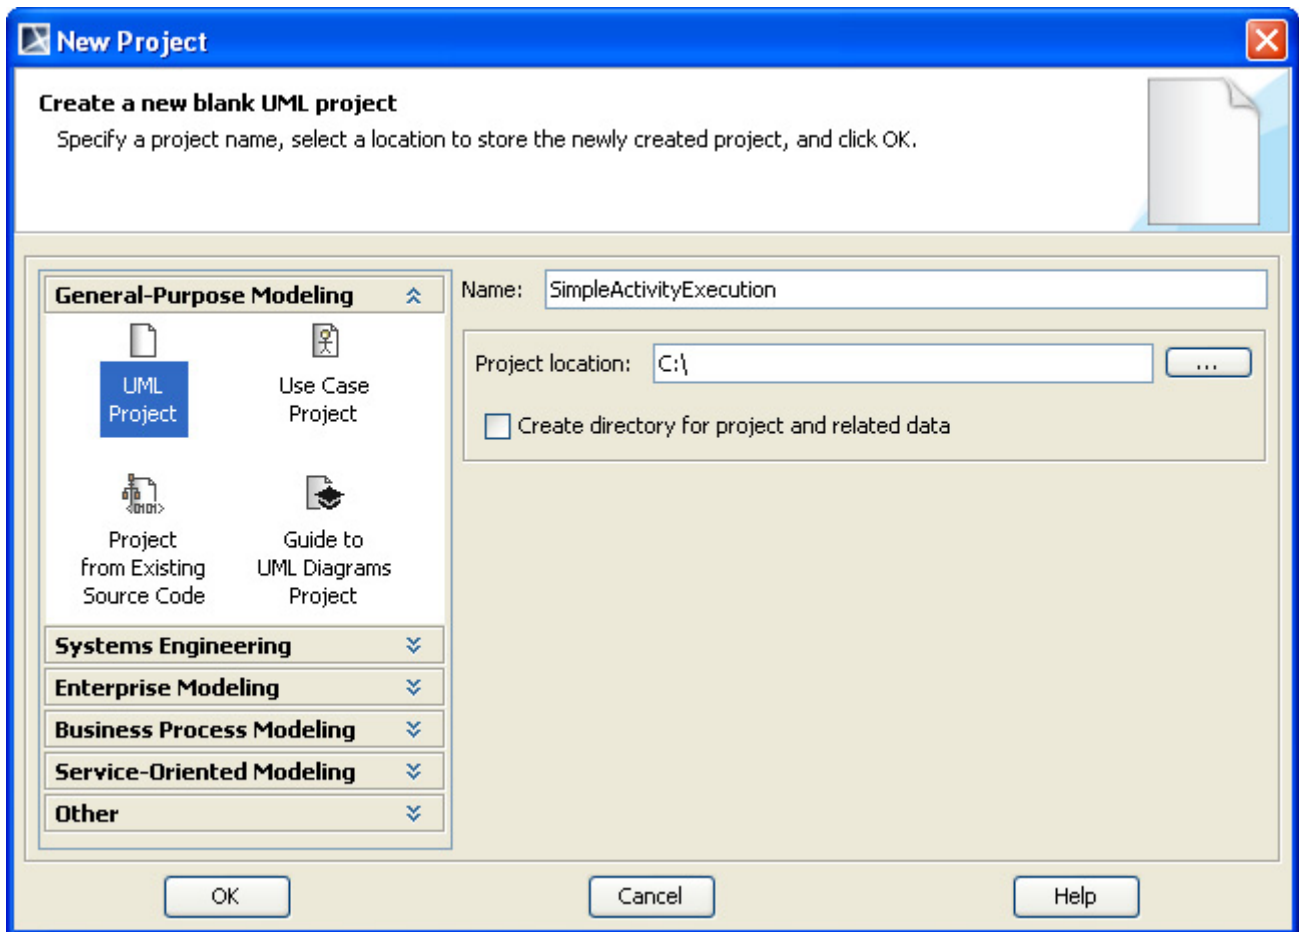

Figure 43 -- New Project dialog
1. Create a new UML project by clicking **File > New Project...** on the main menu. The **New Project** dialog will open (Figure 43).